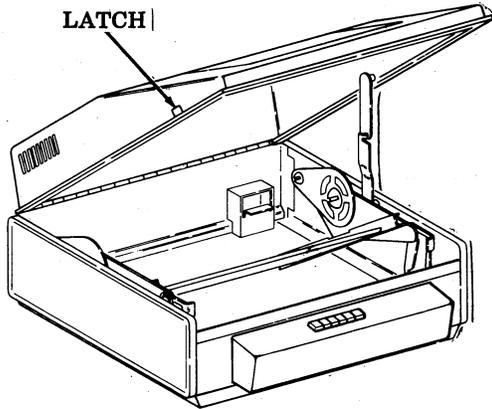

Fig. 11—Printer Cabinet
3.10 Open cabinet by depressing latches on both sides of cover and lifting up (Fig. 11). Remove paper guide stored inside of cabinet.